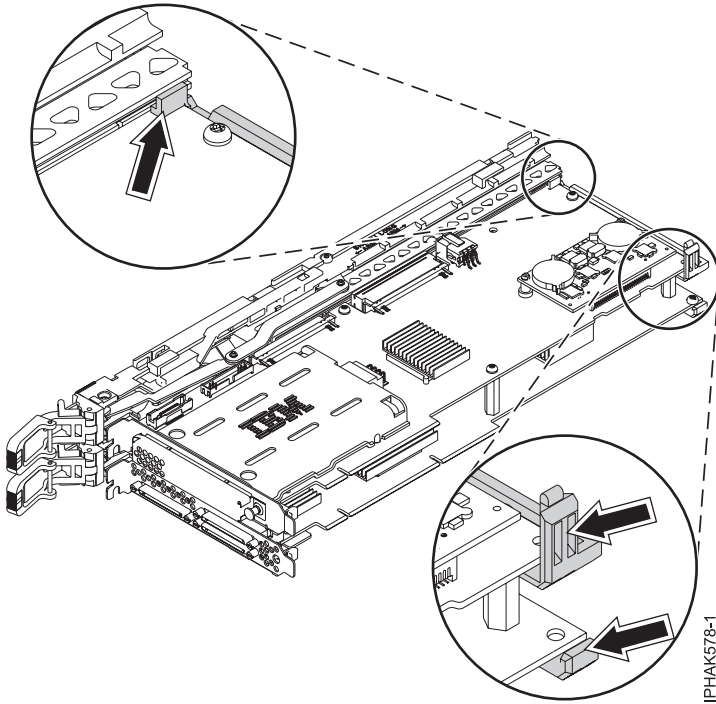

Figure 75. Detaching the rear arms of the cassette assembly
- b. Detach the rear arms of the cassette assembly from the bottom corners of the double-wide adapter. See Figure 75 on page 86.